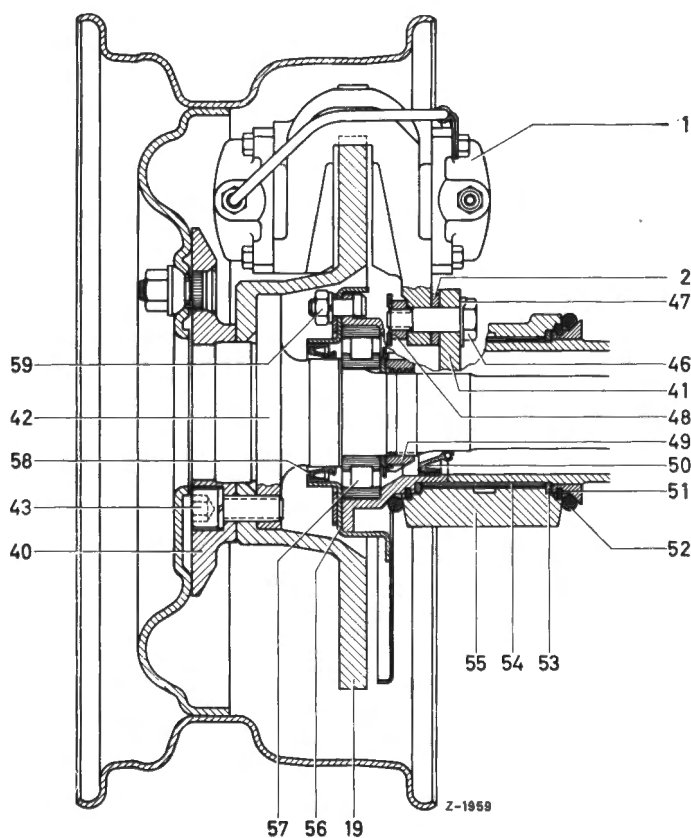

Fig. 35-3/2
6. Unscrew the hexagon socket screws (43) for fastening the wheel fixing disk (40) and the brake disk (19) (Fig. 35-3/2).